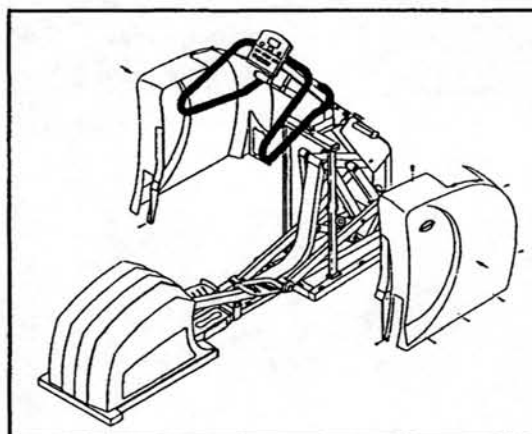

Fig.2-8
3. Secure the FRONT COVER with screws (see Fig.2-8).